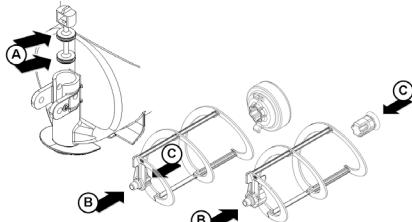

figure 11
- 2 Lubricate faucet piston, outer spiral and outside magnetic rotor (see points A, B and C of figure 11) only with the grease supplied by the manufacturer or other **food grade approved** lubricant.